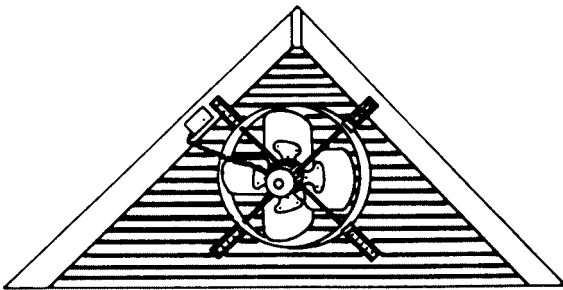

Figure 4 — Mounting to Gable Louvers
1. This gable ventilator is designed to mount behind existing louvers in an attic. If a louver is not present and one must be installed, it should be mounted in the center of the uppermost portion of the gable. The area of the louver should be greater than outlet area of ventilator. (See Figures 4 and 5.)
3. Ventilator may be mounted directly against a gable louver as shown in Figure 4. If louver is sufficiently strong, mounting brackets may be nailed or screwed onto it.